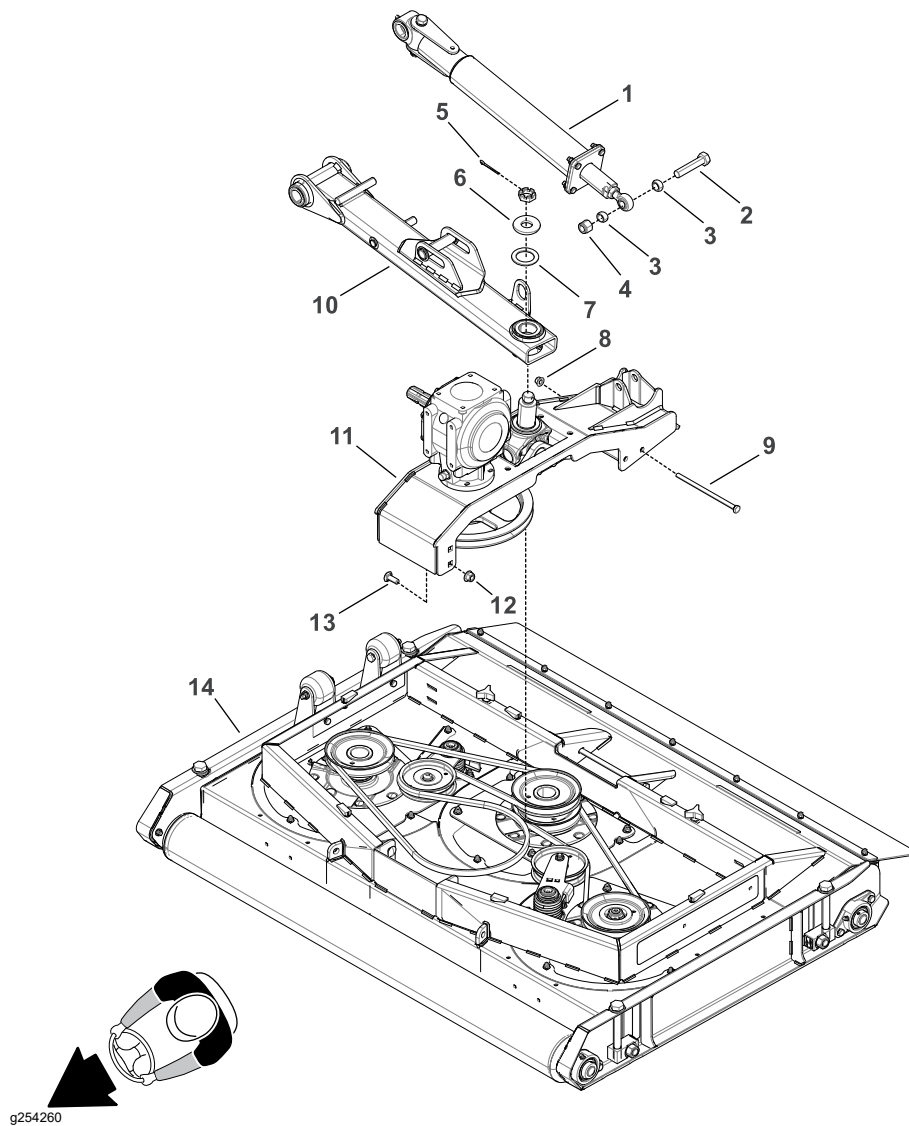

Figure 18
2. Remove the nut (item 4 in Figure 18), spacers (3) and the bolt (2) that secures the impact arm assembly (1) to cutting unit assembly (14).